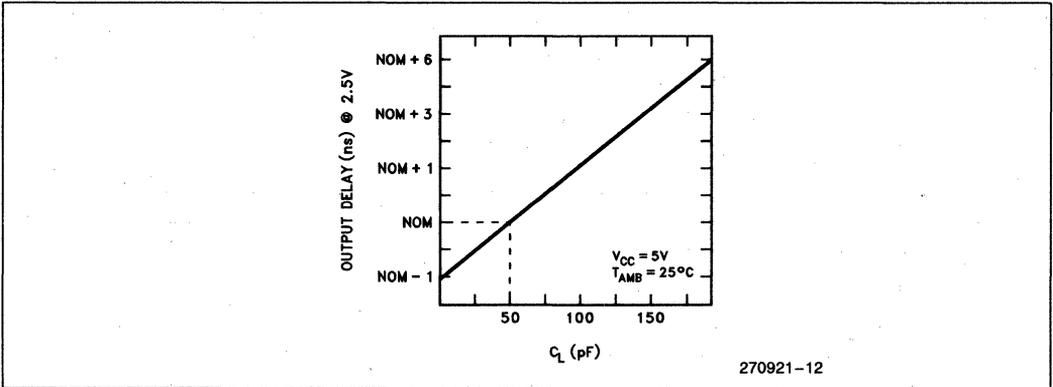

Figure 10. Typical Output Delay Variations vs Load Capacitance
- Specified for a 50 pF load, see Figure 10 for capacitive derating information.